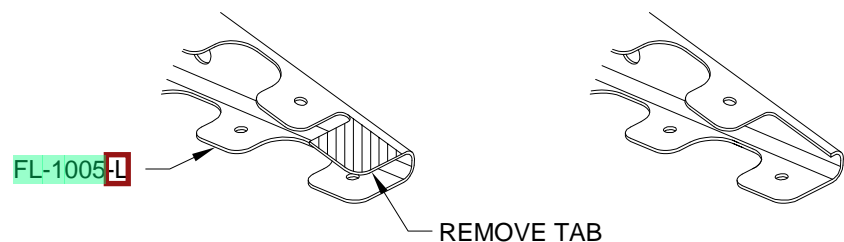

FIGURE 1: TRIM MAIN RIBS
Step 1: Trim away the small tab which has no pre-punched hole on all **FL-1005-L** and **FL-1005-R** Main Ribs as shown in Figure 1. Trim only as deep as the notch. This will permit dimpling of the rivet hole in the lower aft-most flange.